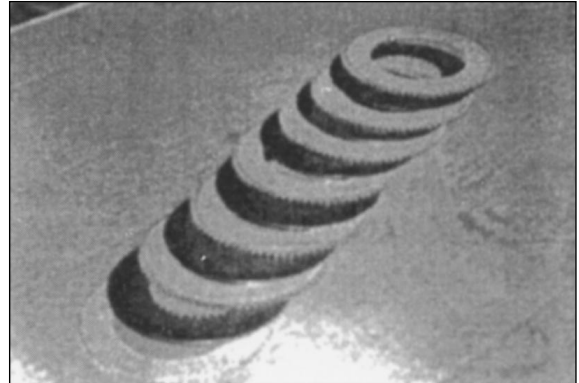
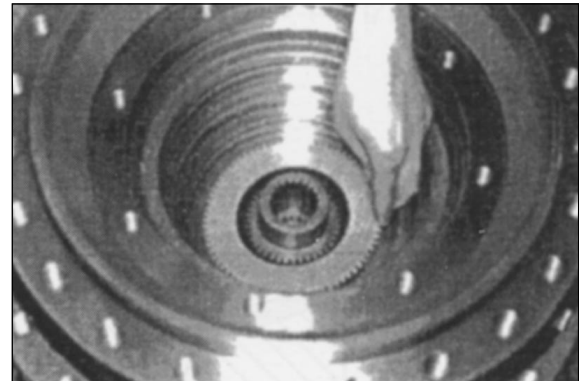

Figure 118
Figure 119
28. Install brake disc assembly, starting with a copper disc (seven pieces) and alternating with steel discs (six pieces). Figure 118 and Figure 119.